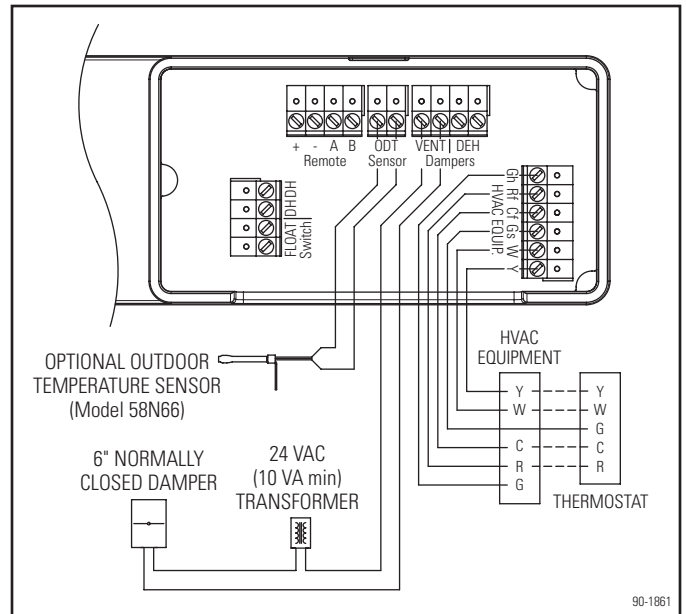

Figure 29. Ventilation Wiring
When wired as shown in **Figure 29**, the ventilation damper will open whenever there is an HVAC heating (W), cooling (Y) or fan (Gs) call, allowing fresh air to be brought in when the HVAC blower is running (see VENTILATION WITH AN EXTERNAL CONTROL section below for exceptions). The ventilation damper will also open if the dehumidifier is operating. "VENTILATING" will show on the dehumidifier control when the dehumidifier is actively ventilating. When the HVAC call ends, the dehumidifier stops, or after the set amount of ventilation time has been met, the ventilation damper will be closed.